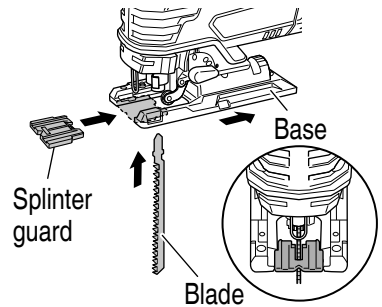

Fig. 13
- (2) Insert the splinter guard in the space on the base, and push it completely. (See **Fig. 13**)
- (3) Attach the blade.
- (4) Push the base all the way to the back position, and tighten the base bolts located at the bottom of the base to secure the base.